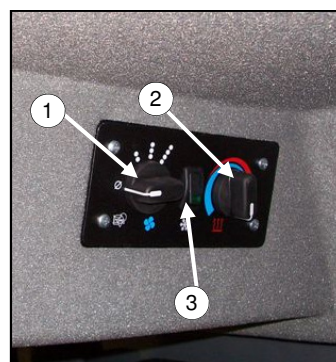

FIG 23-5
Adjusting Fan Blower Speed– fan blower speed is controlled by the left rotary dial (fig. 23-5, item 1). To increase the fan speed, rotate the dial clockwise. To reduce the fan speed, rotate the dial counterclockwise.
Adjusting Temperature Setting– forced air temperature adjustments are controlled by the right rotary dial (fig. 23-5, item 2). Temperature control is a continuously variable adjustment. To increase the forced air temperature, rotate the dial clockwise. To decrease the forced air temperature, rotate the dial counterclockwise.
Operating the Air Conditioning– to activate the air conditioner, press the air conditioning switch (fig. 23-5, item 3). Adjust fan speed and temperature accordingly. See section B under Service for servicing information.